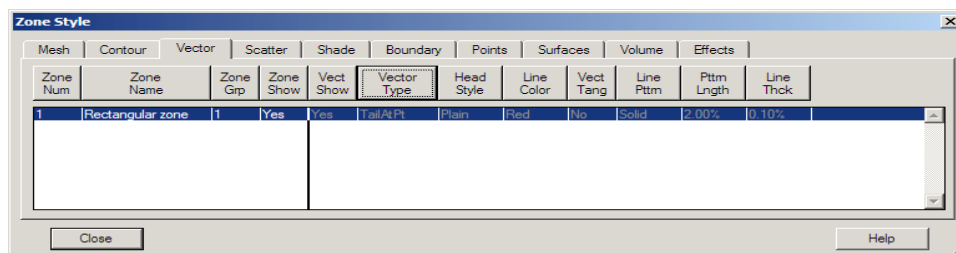

Figure 11-3. The Vector page of the Zone Style dialog.
You can modify your vector plot attributes using either the Vector page of the Zone Style dialog or the Quick Edit dialog. You can control any of the following attributes from the Vector page of the Zone Style dialog (Figure 11-3):
2. Display the Vector page, as shown in Figure 11-3.